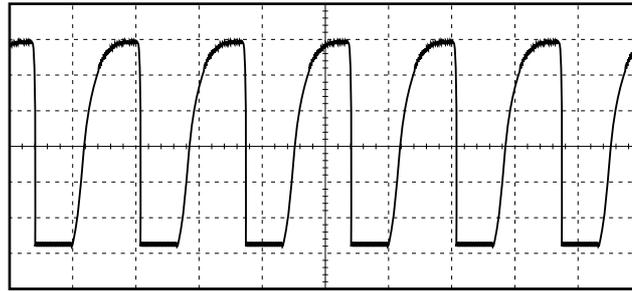

Figure 22. IR link.
- 18 Set the test point switch on the selector box to **TP17** and check that the signal is as in figure 22. Amplitude > 2,5 Vp-p.